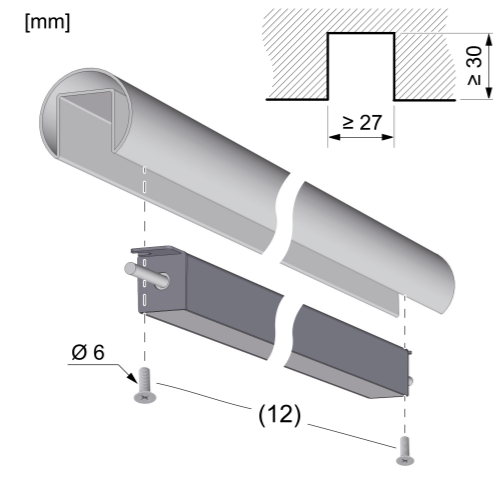

Figure 3: Mounting the luminaire
- i** In the mounting base material (e.g. handrail), prepare a groove according to drawing (Figure 3).
- i** Fasten LED luminaire with stainless steel screws (12) in the groove (Figure 3).